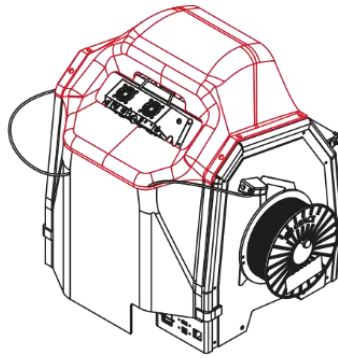

Fig. 70 Mounting the top enclosure part
6. Mount the top enclosure part, so that extruders are placed in the cutout of the part (fig. 70). Top enclosure part should lay on the rear enclosure part. Magnets will hold the element in place.